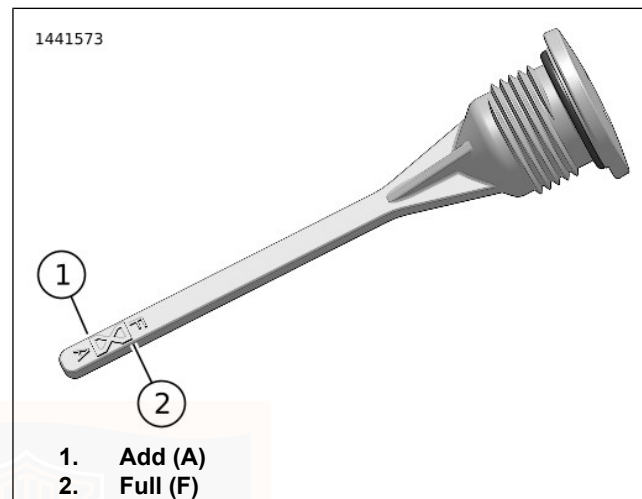

Figure 88. Transmission Lubricant Level
4. See Figure 88. Remove filler plug/dipstick. Check lubricant level on dipstick. Proper oil level is between the Add (A) (1) and Full (F) (2) marks.
1. See Figure 88. Remove transmission filler plug/dipstick.
6. Check lubricant level. Add enough lubricant to bring the level between the add (A) and full (F) marks. See Figure 88.